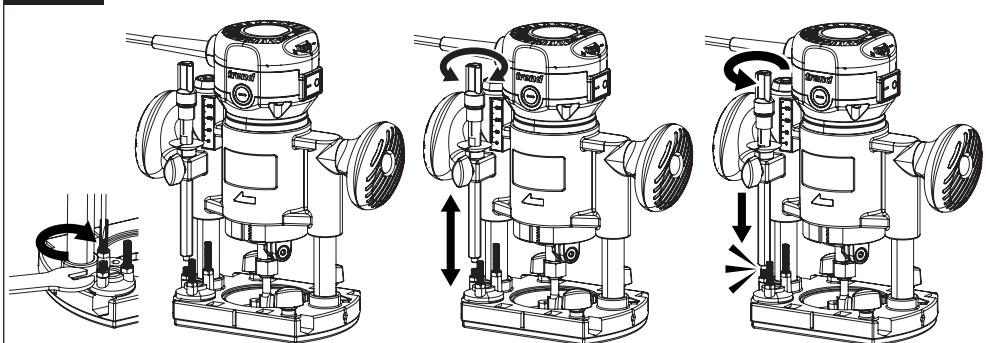

Fig. 21
- Avoid climb-cutting (cutting in direction opposite than shown in Fig 21). Climb-cutting increases the chance for loss of control resulting in possible injury. When climb-cutting is required (backing around a corner), exercise extreme caution to maintain control of router. Make smaller cuts and remove minimal material with each pass.